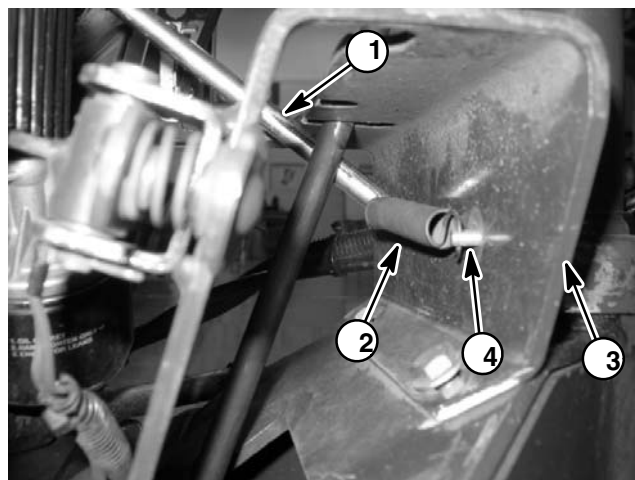

Figure 8
10. Disconnect spring (item 18) from clevis pin in shift plate (Fig. 8).
7. After engine installation, verify pulley alignment across engine and hydraulic pump pulley faces with a straight edge. If necessary, loosen two (2) set screws on engine flywheel pulley and adjust location of pulley. Retighten pulley set screws after alignment. Make sure that shield (item 48) behind flywheel pulley is free to rotate after pulley alignment.
13. Connect spring (item 18) to clevis pin in shift plate (Fig. 8).